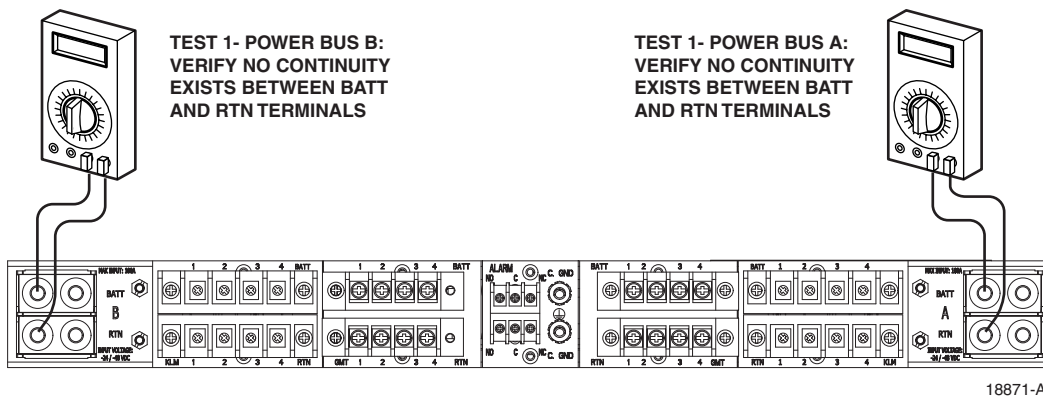

Figure 7. Test 1: Input Battery to Input Return
**Test 1: Input Battery to Input Return**—Perform this test on each input power terminal block. Connect one test probe to the input power BATT (–) terminal and the other test probe to the input power RTN (+) terminal. Verify that no continuity exists between the input power BATT and RTN terminals. Figure 7 shows test points on dual bus fuse platform with A and B input power terminal blocks.